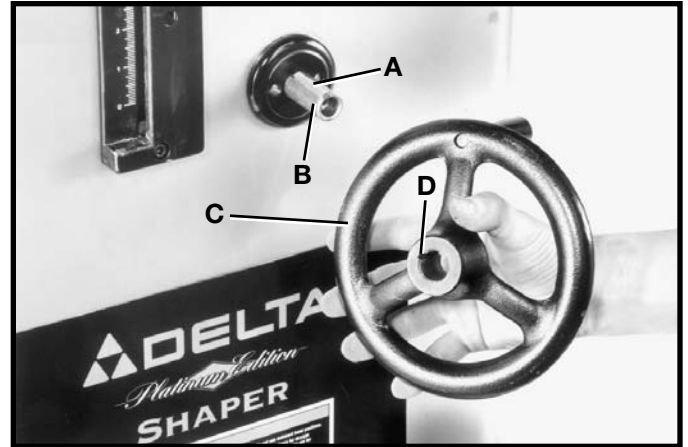

Fig. 5
1. Insert key (A) Fig. 5, into slot in spindle raising and lowering shaft (B) as shown.
2. Assemble handwheel (C) Fig. 5, onto spindle shaft (B), making certain the key (A) fits into the slot (D) in the handwheel. Insert the set screw which holds the handwheel to the shaft and tighten screw firmly against key.